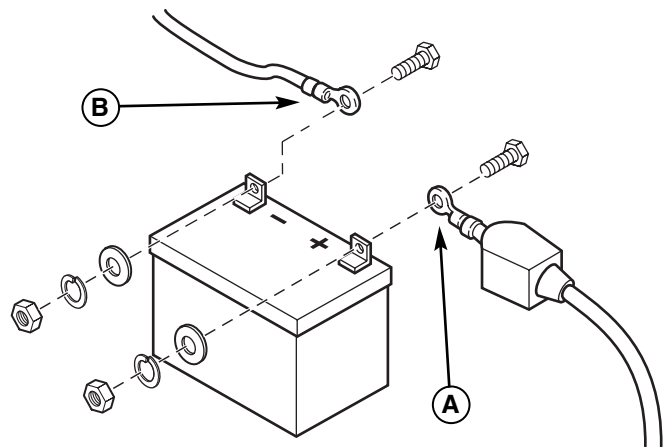

Figure 4. Installing the battery cables
2. Connect the red positive battery cable (A, Figure 4) to the positive battery terminal, then cover the positive battery terminal with the terminal cover.
3. Connect the black negative battery cable (B) to the negative battery terminal.